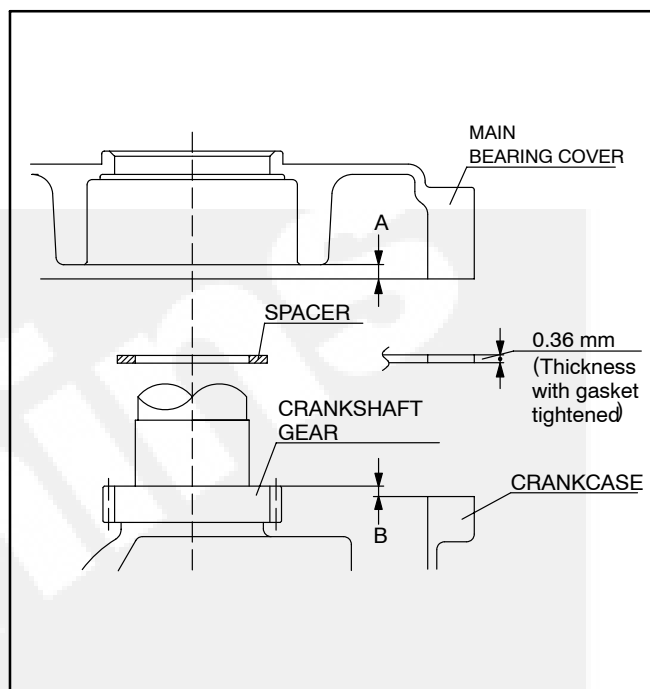
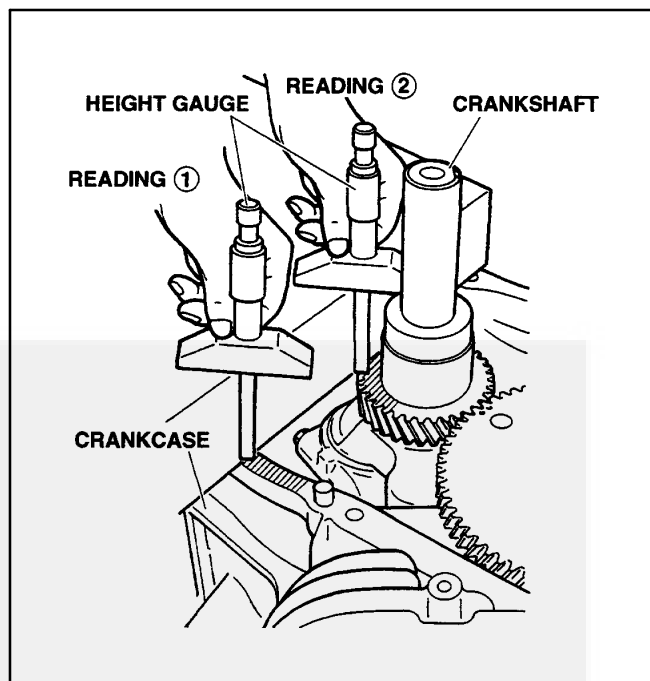

FIGURE 9-13. CRANKSHAFT END PLAY
FIGURE 9-14. CRANKSHAFT END PLAY
1. Measure and record the A and B distances (Figure 9-13). Figure 9-14 shows a method for determining the B distance. B is equal to Reading 1 minus Reading 2.